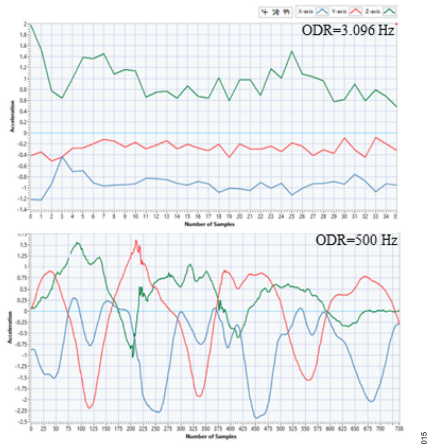

Figure 13. Output Data Rate Example
Figure 13 illustrates the impact of varying ODR settings on capturing the acceleration data when the sensor is shaken by hand. It shows that when data sampling rate is low (3.096 Hz), the captured data is not representing the actual hand shaking excitation as the sample rate is slower than the hand shake frequency (as shown in the top image of Figure 13). This slower rate may result in data loss. Conversely, when data is sampled at 500 Hz, it appears significantly faster and smoother and the captured data follows the hand shaking acceleration as demonstrated in the bottom image of Figure 13.
- **High Pass Filter.** The ADXL355/ADXL357 include an optional digital high-pass filter with a programmable corner frequency. The high-pass corner frequency, where the output is attenuated by 3 dB, is related to the ODR, and the HPF_CORNER setting in the filter register (Register 0x28, Bits[6:4]). The high-pass filter is disabled by default. Figure 13 shows the HPF settings, which are proportional to the ODR.